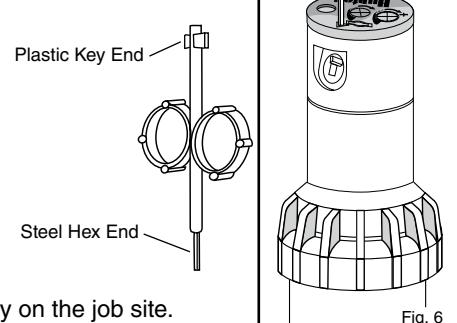

Fig. 6
Insert the steel hex end of the Hunter wrench into the radius adjustment screw (Fig. 6). Turn the screw clockwise (into the stream of water) to decrease the radius, or counterclockwise to increase the radius. Radius can be reduced up to 25%.
- Using the hex key of the Hunter wrench, turn the radius adjustment screw (Fig. 6) counterclockwise to be sure it is not blocking the nozzle socket opening. If a nozzle is already installed, it can be removed by backing out the adjustment screw and turning on the water, or by pulling outward on the nozzle removal post with a pair of needle-nosed pliers.